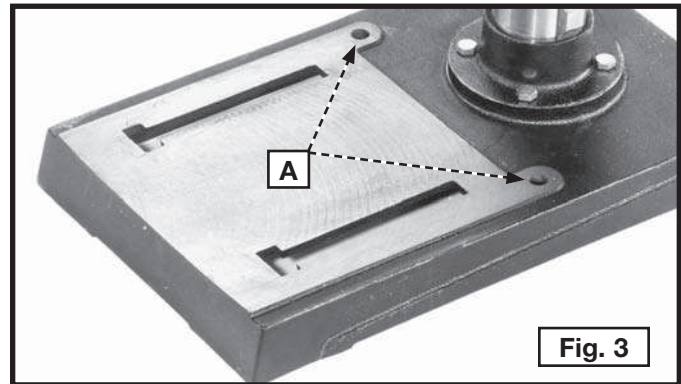

Fig. 3
1. If you plan to use your drill press in a permanent location, you must secure the drill press base to the supporting surface with fasteners through the two mounting holes (A) Fig. 3 in the drill press base.
4. Drill two 3/8" diameter holes through the holes (A) Fig. 3 in the drill press base, and in the supporting surface (E) Fig. 5.